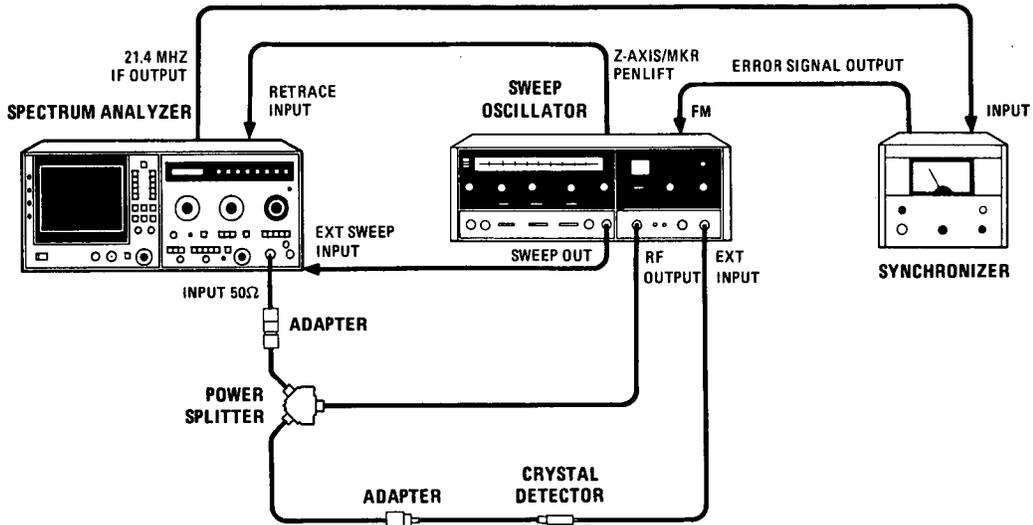

Figure 5-45. Preliminary Bias Adjustment Test Setup
2. Reconnect power cord, set LINE switch ON, and connect equipment as shown in Figure 5-45. Set all normal (green) spectrum analyzer controls, except as indicated, and other controls as follows: